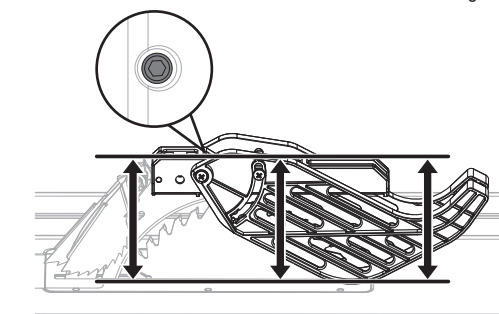

Fig. 13b
- Pull out and hold the knob (1) on the blade guard. Align the pin (2) with the hole (3) on the riving knife (4), and place the pin (5) on the blade guard (6) into the slot (7) marked on the riving knife (4).
- If blade guard is not parallel to table when riving knife is in uppermost position (through cuts), adjust the set screw (8) with 2.5 mm hex key (not supplied) as necessary. (Fig. 13b)